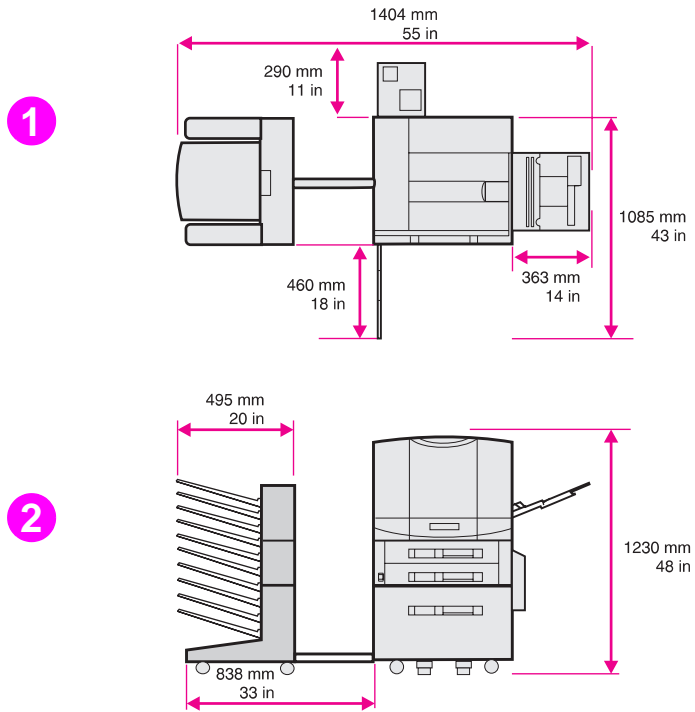

Figure 1. Space requirements
- Install the printer away from walls or other objects. There must be enough space around the printer for proper access and ventilation (see figure 1 on page 25).